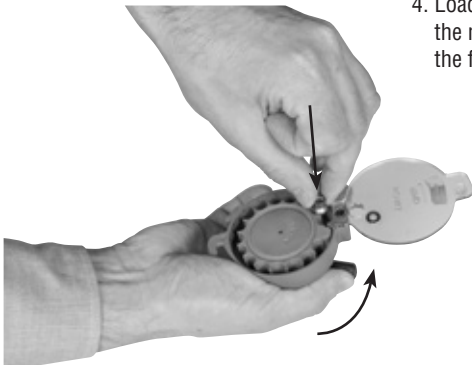

Fig. 9A
3. With your thumb, twist the winding tool counter clockwise and hold it. With your other hand load one pellet (with its skirt upwards) in the magazine, inline with the opening of the magazine body. This will hold the magazine in the wound position. **(Fig. 9A)**